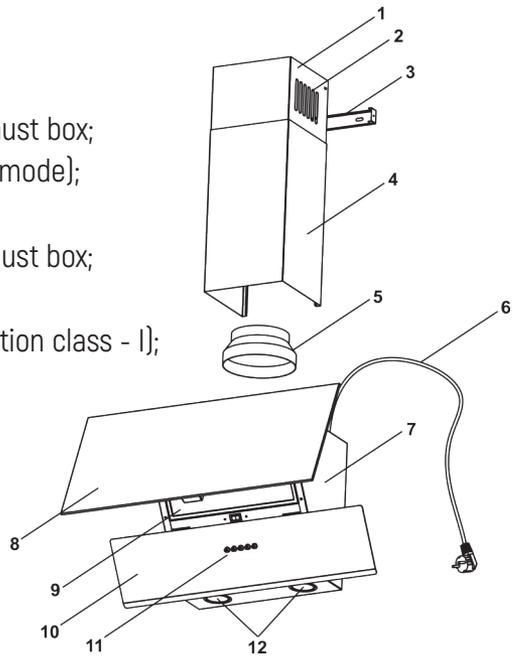

Fig. 3
5.3 The cooker hood consists of the following components (Fig. 3):